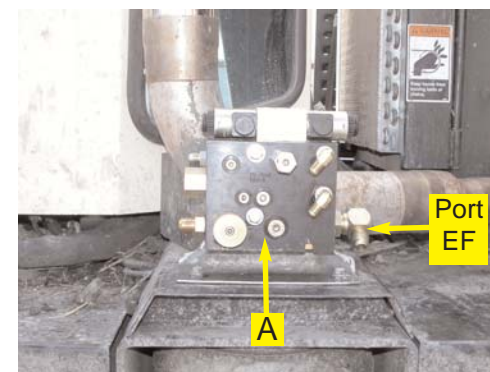

Figure 2c. Mounted Automated Steering Block.
- b. Install the Automated Steering Block, as prepared in step 1, to the mounting bracket using the hardware in group (**G**). (Figure 2c.)